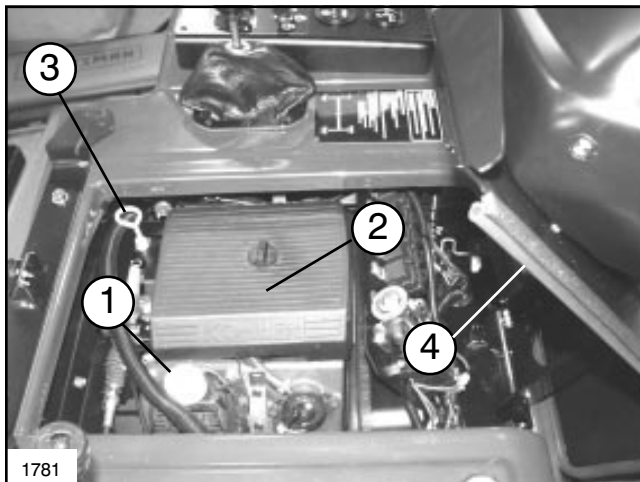

FIG. 14
1. Have the machine on a level surface with the engine OFF. Tilt seat forward to gain access to the engine compartment. (See FIG. 14)